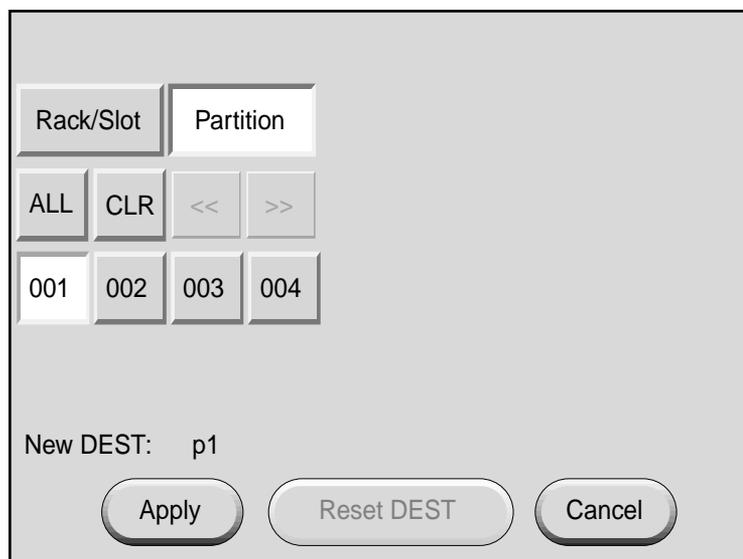

Figure 8-16 Targeting Partition
To select all bricks within a partition, see Figure 8-16 and follow these steps:
2. Press the button for the partition number (for example, Figure 8-16 shows partition 001 selected).
The new partition target is reflected in the destination field near the bottom of the display window. For example, Figure 8-16 shows partition 001 (p1) as the destination.